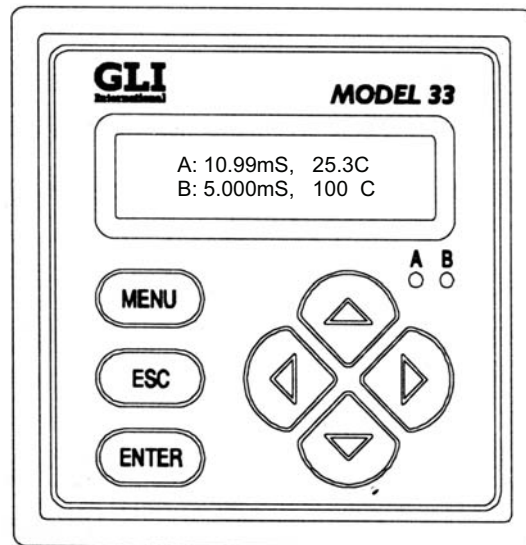

Figure 7. CIT-501 Conductivity RO Product Measure Screen Standard Configuration.
The user interface consists of a two-line LCD display and keypad with MENU, ENTER, ESC, Left and Right and Up and Down Keys (see Figure 7).
- The standard readout used for our configuration is shown in Figure 7.